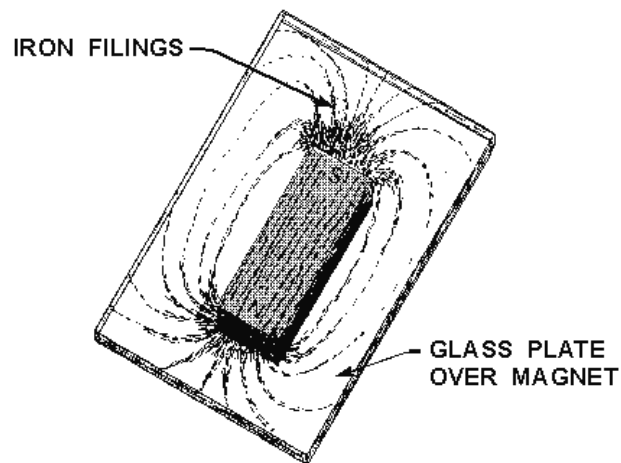

Figure 1-13.—Pattern formed by iron filings.
A pattern of this directional force can be obtained by performing an experiment with iron filings. A piece of glass is placed over a bar magnet and the iron filings are then sprinkled on the surface of the glass. The magnetizing force of the magnet will be felt through the glass and each iron filing becomes a temporary magnet. If the glass is now tapped gently, the iron particles will align themselves with the magnetic field surrounding the magnet just as the compass needle did previously. The filings form a definite pattern, which is a visible representation of the forces comprising the magnetic field. Examination of the arrangements of iron filings in figure 1-13 will indicate that the magnetic field is very strong at the poles and weakens as the distance from the poles increases. It is also apparent that the magnetic field extends from one pole to the other, constituting a loop about the magnet.
- Q27. Refer to figure 1-13. For what purpose would you sprinkle iron filings on the glass plate?*
- Q28. Refer to figure 1-13. What pattern would be formed if sawdust was sprinkled on the glass instead of iron filings?*